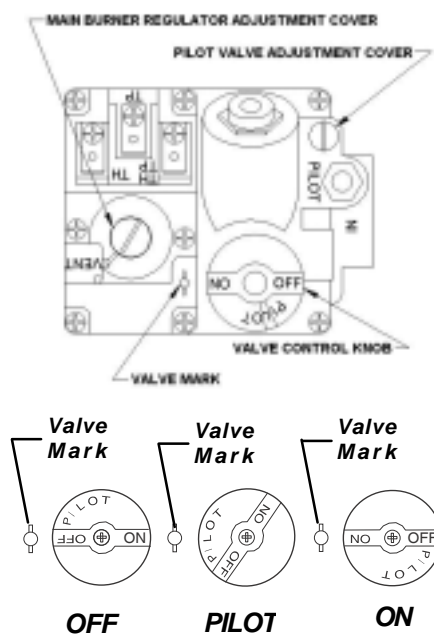

Figure 6. Gas Control Valve & Knob Positions
3. Turn the gas control valve knob to align the PILOT setting with the valve mark. Figure 6 shows the possible control knob positions.